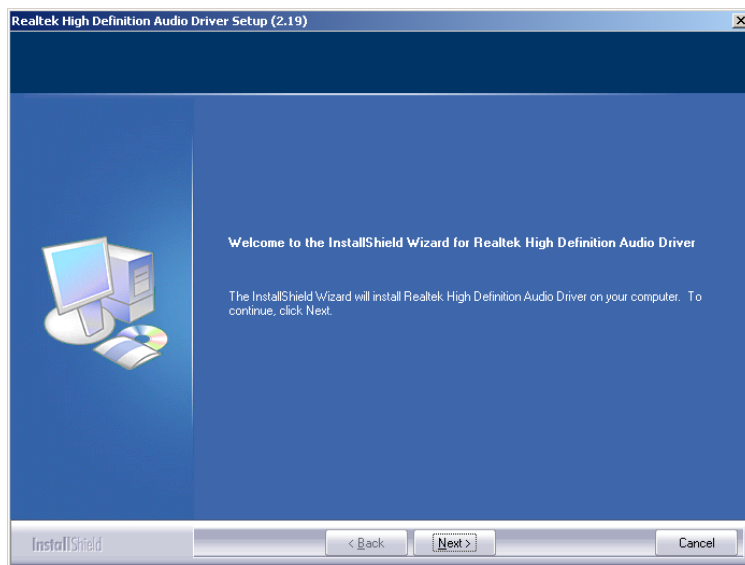

Figure 7-36: InstallShield Wizard Welcome Screen
Step 6: Once initialized, the **InstallShield Wizard** welcome screen appears (Figure 7-36).